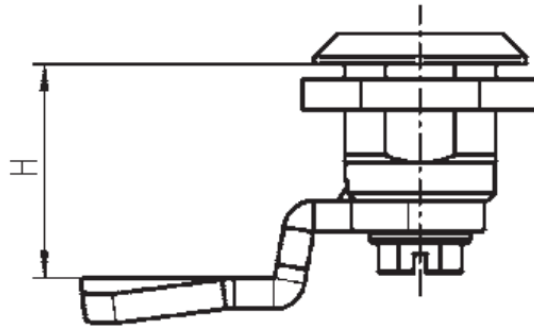

Figure 1
- If new pawls are required, there is a simple measurement that needs to be taken to determine which pawl you will need. Using the existing mechanical lock, measure the length of "H" in millimeters (mm) as shown in figure 1. Using "H" determine which pawl is required from Table 1.